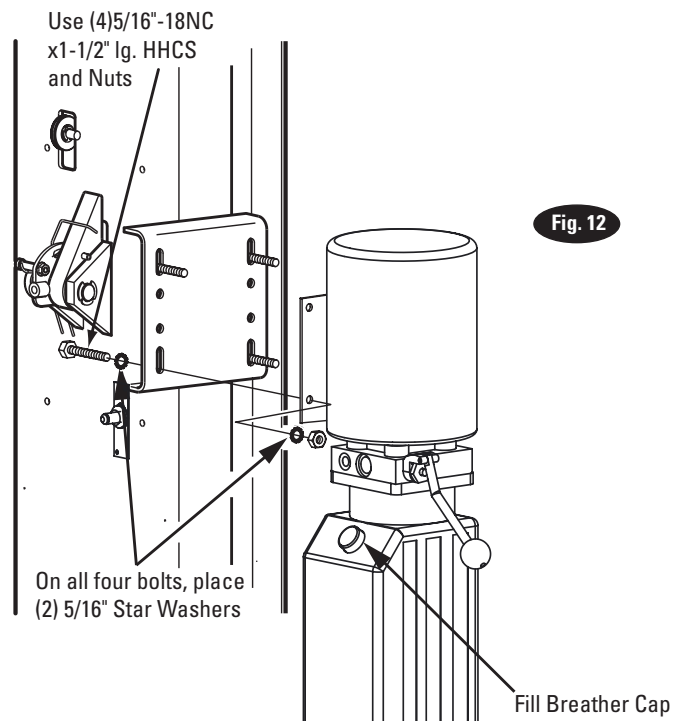

Fig. 12
12. Power Unit: First install a star washer onto all of the (4) 5/16" -18NC x 1-1/2" HHCS. This is very important for grounding. Put the (4) 5/16" -18NC x 1-1/2" HHCS thru holes in power unit bracket, Fig. 12. Mount unit with motor up to column bracket and install (4) 5/16" star washers and 5/16" Nuts. Install and hand tighten fitting to pump until O-ring is seated. Continue to tighten the locknut until the nut and washer bottom out against the pump manifold.